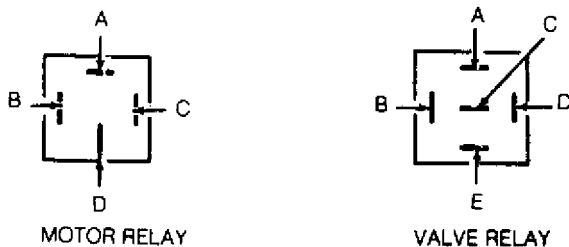

Fig. 5: Identifying Motor & Valve Relay Terminals
1) Disconnect negative battery cable. Remove motor relay from hydraulic unit. Ensure continuity exists between terminals "B" and "C" of motor relay. See Fig. 5. Connect 12 volts to terminal "C", and ground terminal "B". Ensure continuity exists between terminals "A" and "D".